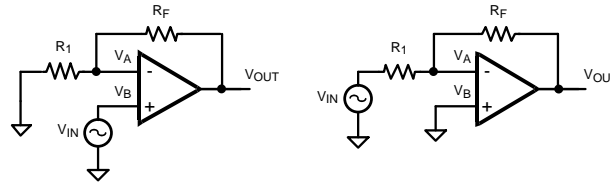
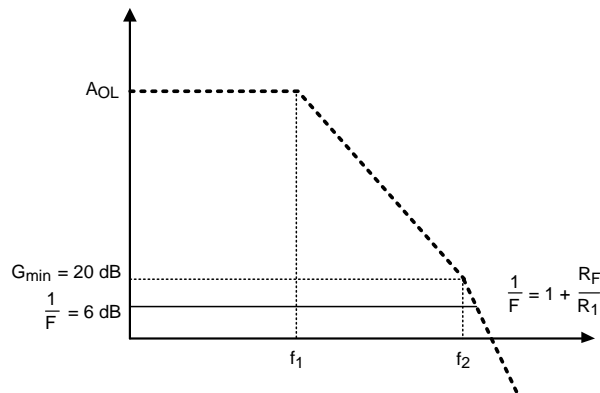

Figure 52. Op Amp with Resistive Feedback. (a) Non-inverting (b) Inverting
Figure 53. $1/F$ for $R_F = R_1$ and Open Loop Gain Plot
The feedback function (F) of arbitrary electronic circuits, as shown in Figure 52, is defined as the ratio of the input and output signal of the same circuit.
The feedback function for a three-terminal op amp as shown in Figure 52 is the feedback voltage $V_A - V_B$ across the op amp input terminals relative to the op amp output voltage, V_{OUT} . That is
The inverse feedback factor for both configurations shown in Figure 52, is given by:
If R_1 and R_F are chosen so that the closed loop gain is lower than the minimum gain required for stability, then $1/F$ intersects the open loop gain curve for a value that is lower than G_{\min} . For example, assume the G_{\min} is equal to 10 V/V (20 dB). This is shown as the dashed line in Figure 53. The resistor choice of $R_F = R_1 = 2 \text{ k}\Omega$ makes the inverse feedback equal 2 V/V (6 dB), shown in Figure 53 as the solid line. The intercept of G and $1/F$ represents the frequency for which the loop gain is identical to 1 (0 dB). Consequently, the total phase shift at the frequency of this intercept determines the phase margin and the overall system stability. In this system example $1/F$ crosses the open loop gain at a frequency which is larger than the frequency where G_{\min} occurs, therefore this system has less than 45° phase margin and is most likely unstable.
This example, represented by Figure 52 and Figure 53, is generic in the sense that the G_{MIN} as specified did not distinguish between inverting and non-inverting configurations.